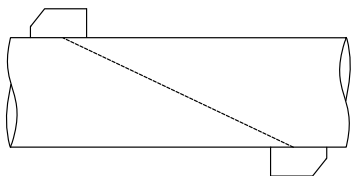

Fig. 3.7: Diagonal arrangement
The transducers are mounted on the opposite sides of the pipe (see Fig. 3.7).
- odd if the measurement is conducted in the diagonal arrangement (see Fig. 3.7)